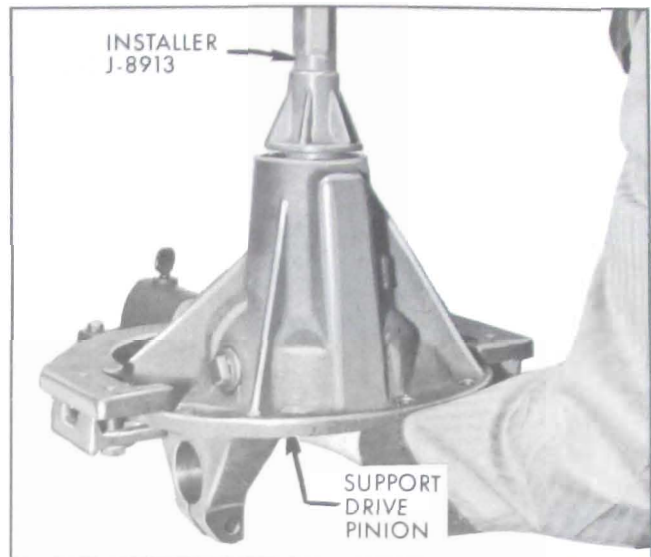

Figure 6-19—Installing Front Pinion Bearing
4. For a starting pinion bearing pre-load adjustment, use original pinion pre-load spacers. Place these spacers on pinion and hold pinion assembly in position in carrier. Oil front pinion bearing and place in position on pinion. Hold pinion in place and drive front pinion bearing over pinion until fully seated using Installer J-8913. See Figure 6-19.